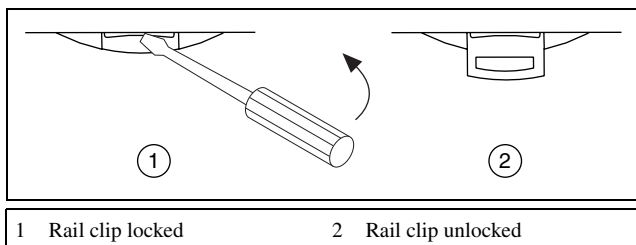

Figure 1. Unlocking the Rail Clip
2. Use a flat-bladed screwdriver to open the DIN rail clip to the unlocked position, as shown in Figure 1.